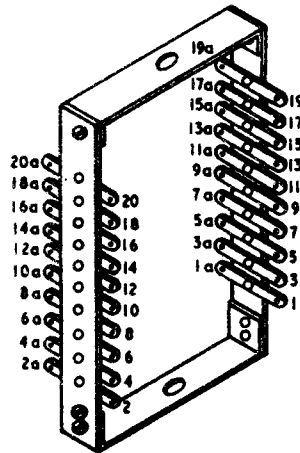
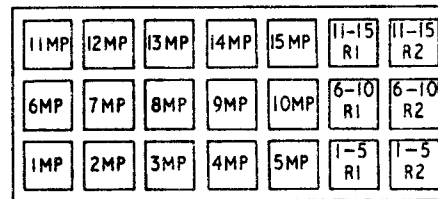

FIG. 3 STRIP, CONNEXION No. 145/DN TAG LAYOUT
FIG. 4 MOUNTING No. F151/21AH 15 CCTS PER PLATE (TYPICAL)
- 3 SC1 and SC2 are typical. They represent tags on the Strip Connexion No. 145/DN. Fig.3 illustrates tag layout on a Strip Connexion No. 145/DN
- 4 Positive battery supply should be from a Power-Unit No.57A modified as indicated in Works Spec S(W) 2012
- 5 The Relay MP (Relay No.14752), M.U.No 3B, inductor Coil No.172A, Resistors R1 & R2 (Resistors, Coil No.9) Strip Connexion No.145/DN, Valve Electronic CV7048 (MRA), Meter No.20A and positive battery supply are additional items provided for cord circuit metering. Typical layout of relay and resistors is shown in Fig.4